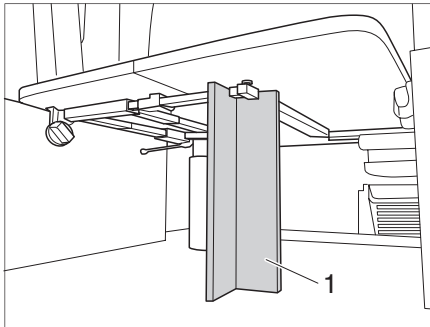

Fig. 62 Wooden support
- ▶ Slide the table top onto the support edge and place the wooden support (Fig. 62,1) under the table.